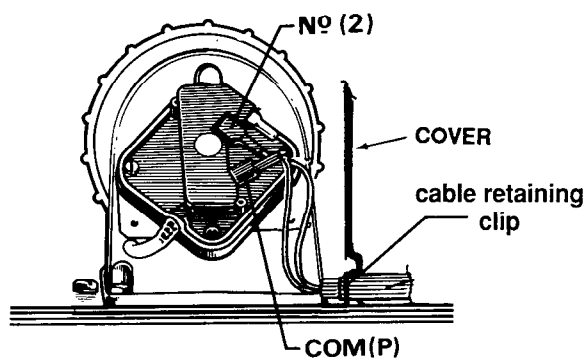

Fig. 26
- Push spade terminals onto tags COM (P) and No (2) – the common and normally open contacts – polarity immaterial.
- Fit turret cover (D) (fig. 25) ensuring that both the air tube and cables are not trapped, with the **cable retaining clip** positioned as shown, see fig. 26, within the cover.
- N.B.** NC (1) Terminal is not used.